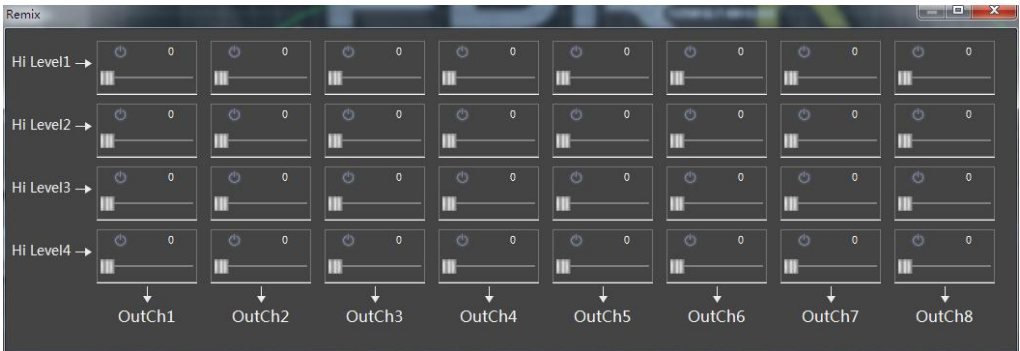

figure 3.3.14
**Mixer settings:** click "mixer" in the "7" area in Figure 3.2.2, then you can switch to (Figure 3.3.14) the relevant parameter settings for the corresponding adjustment.